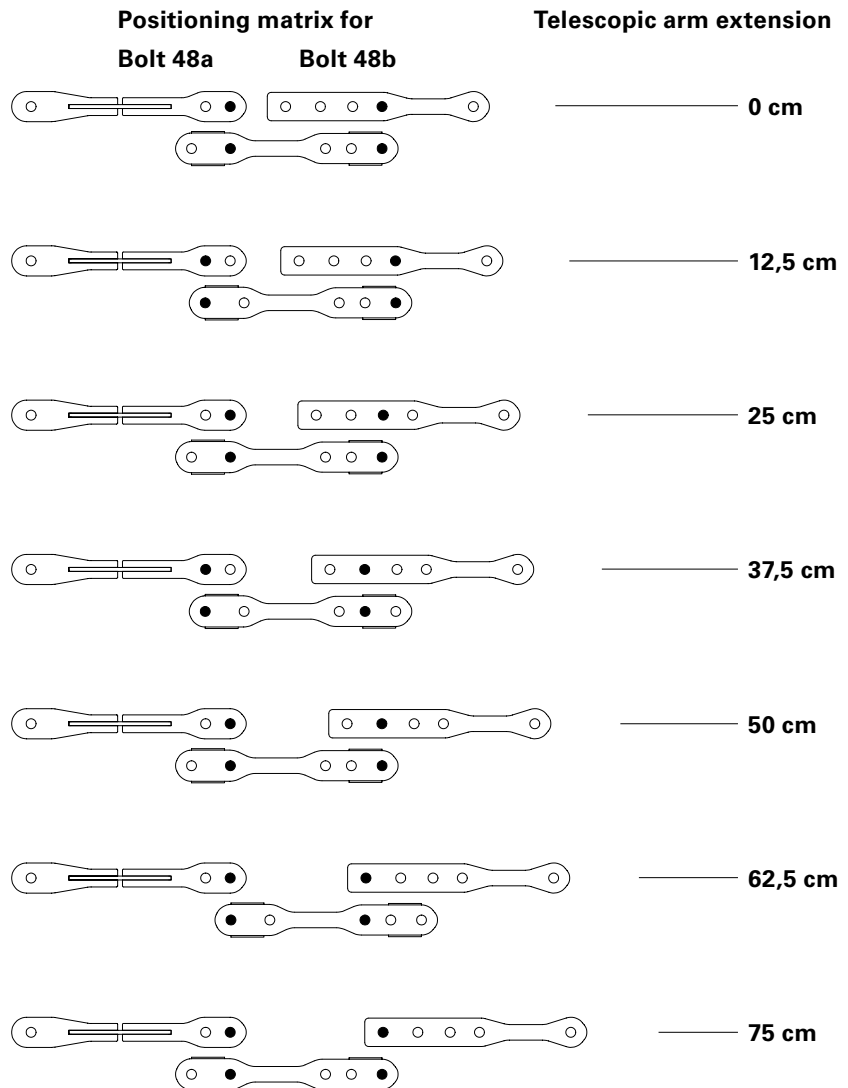

Fig. A1.15
3. Move tension profile (2.3) until the required position of the bolt (48a) corresponds to the positioning matrix. (Fig. A1.15)
Fig. A1.15 shows the positions for inserting bolts 48a and 48b depending on the extension of the telescopic arm.